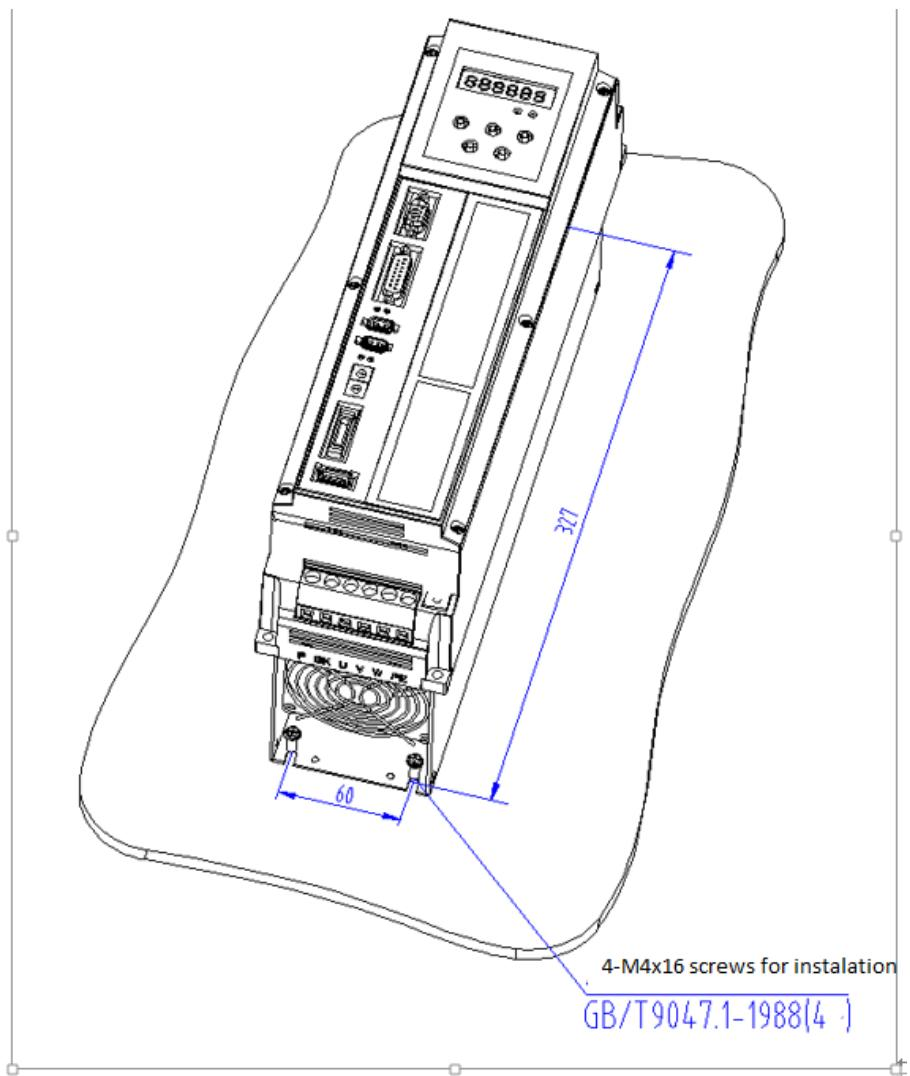

Figure 5.4.1 Wall mounted installation mode of HSV-180US-035, 050, 075 spindle drivers
- Wall mounting without auxiliary devices, as shown in Figure 5.4.1